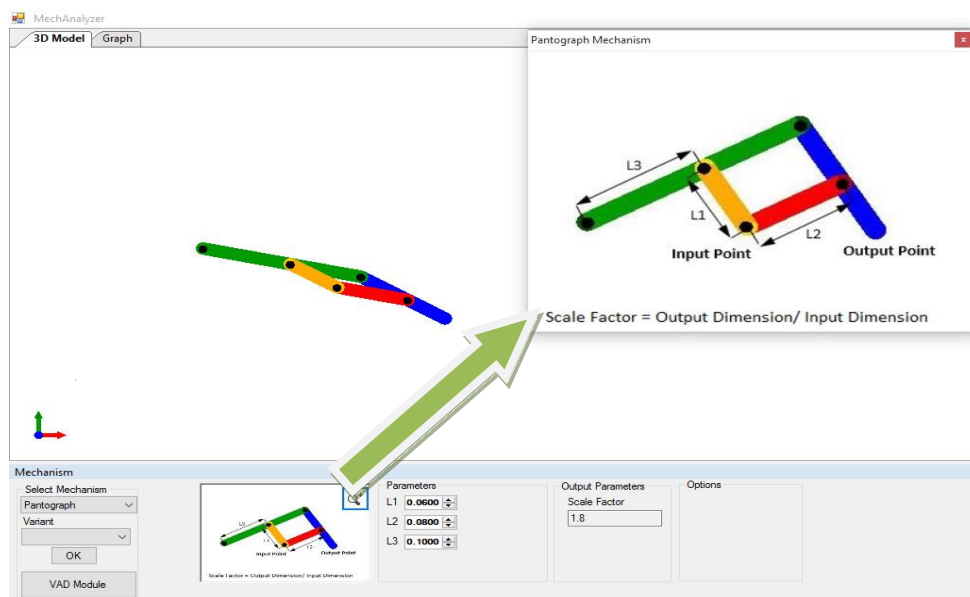

Figure 2: Mechanism description window opened by clicking the zoom button.
- The mechanism parameters window using the zoom button as shown in Figure 2 can be opened to relate the various lengths to the parameters of the mechanism. The window also defines any output parameters of the mechanism.